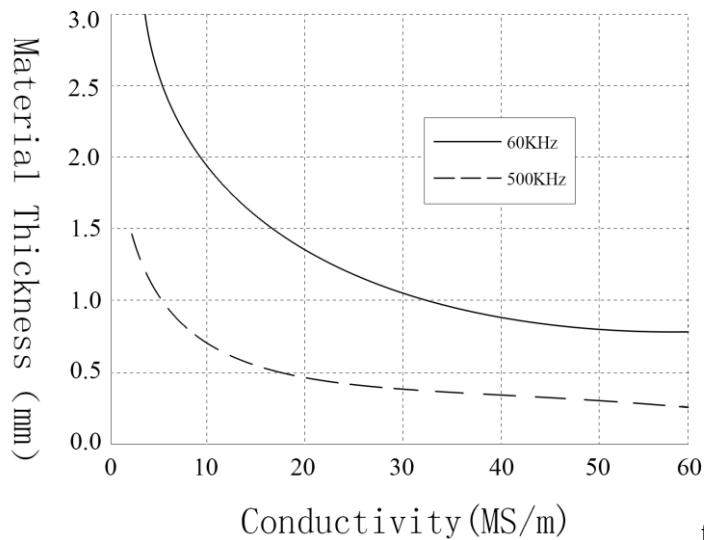

figure 6.1
6.3.1 Figure 6.1 shows the dependence between the thickness of the material and the conductivity and the test frequency, the minimum material thickness required by 3 times the standard penetration depth ($3 \times \delta$).